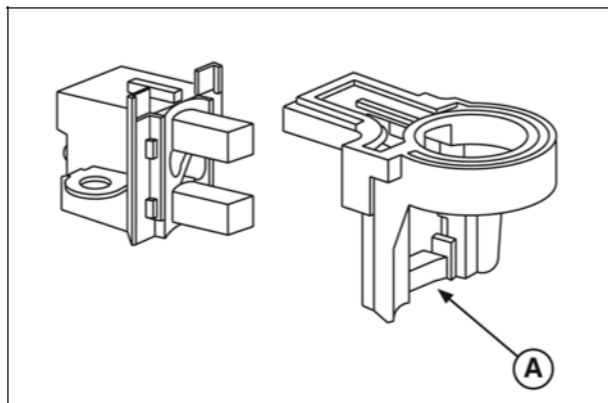

Figure 39
- Screw #1 - 0.45 in. (11.5 mm) (A, Figure 39).
- Screw #2 - 0.35 in. (9.0 mm) (B).